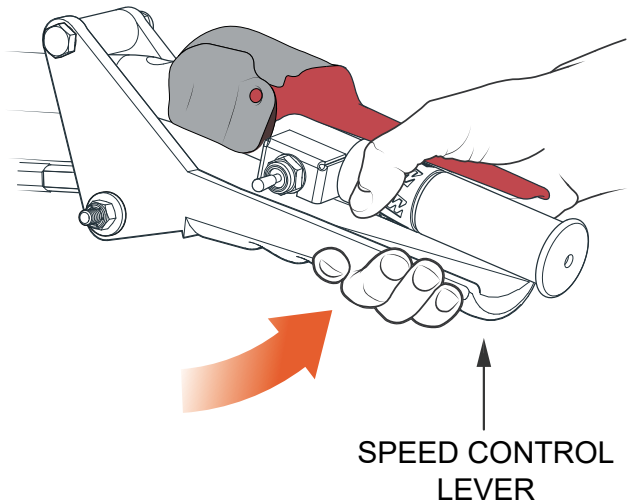

Figure 11. Speed Control Lever
6. While keeping the deadman lever squeezed, slightly squeeze the speed control lever (Figure 11) until the buggy begins to move in a **forward** direction.
8. Slightly squeeze the speed control lever (Figure 11) until the buggy begins to move in a **reverse** direction.